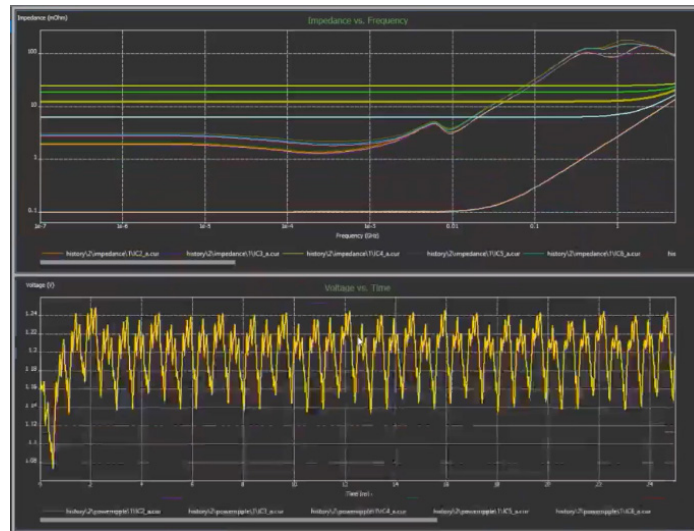

Figure 31: Simulation of all eight nodes
- Run a simulation to look at all eight nodes. Since they are all identical and all the impedances of the network were closely matched, most of the ripples are overlapping each other (Figure 31).